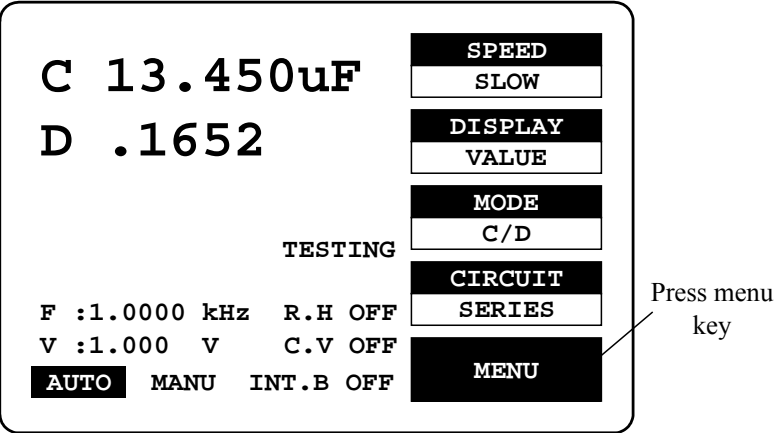

Figure 7-1
- Press **MENU** key. (Figure 7-1)